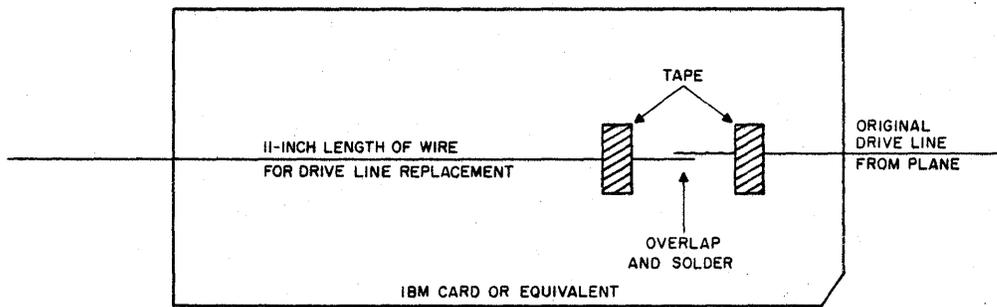

FIGURE 4. METHOD FOR CONNECTING DRUM LINE REPLACEMENT WIRE
7. The unwound wire must be soldered to a single 11-inch piece of wire. This is best accomplished by taping both wires to a convenient support such as an IBM card. Tape them on the card so that the ends overlap by approximately 1/16-inch, see figure 4. Brush them with a soldering iron to achieve a satisfactory mechanical bond. Remove the tape and supporting card.